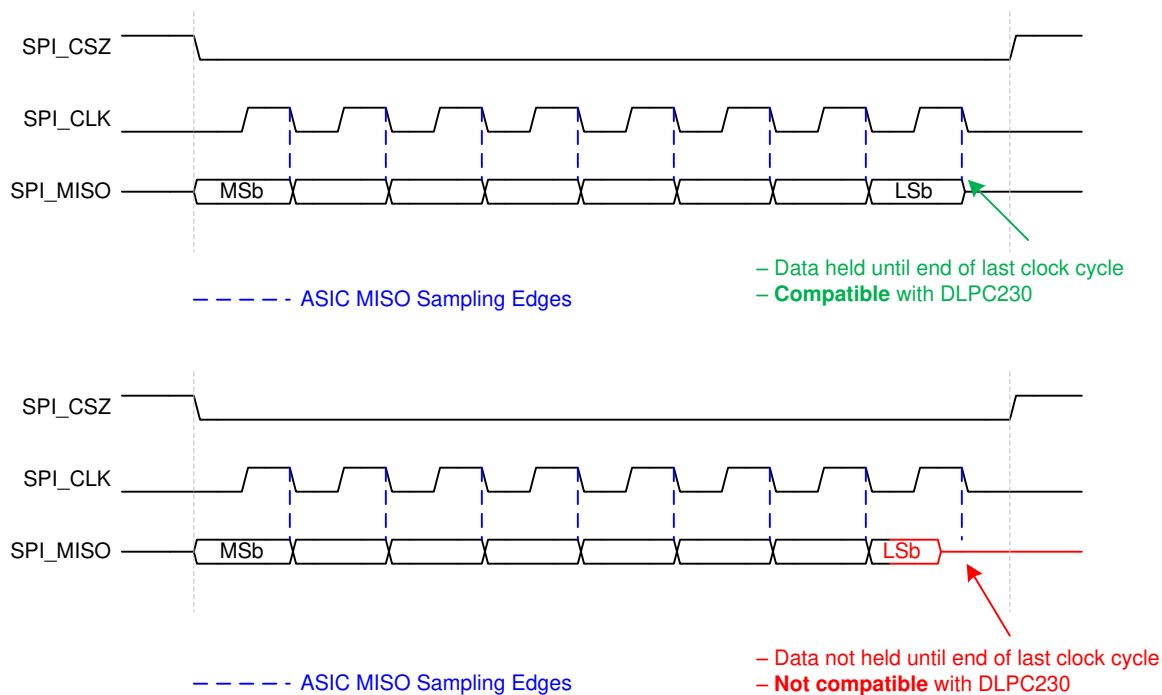

Figure 5-8. Flash Interface Data Capture Requirements
- (1) The DLPC23x-Q1 communicates with flash devices using a slight variant of SPI Transfer Mode 0 (that is, clock polarity = 0, clock phase = 0). Instead of capturing MISO data on the clock edge opposite from that used to transmit MOSI data, the DLPC23x-Q1 captures MISO data on the same clock edge used to transmit the next MOSI data. As such, the DLPC23x-Q1 Flash SPI interface requires that MISO data from the flash device remain active until the end of the full clock cycle to allow the last data bit to be captured. This is shown in Figure 5-8.
- (2) The actual maximum clock rate driven from the DLPC23x-Q1 can be slightly less than this value.